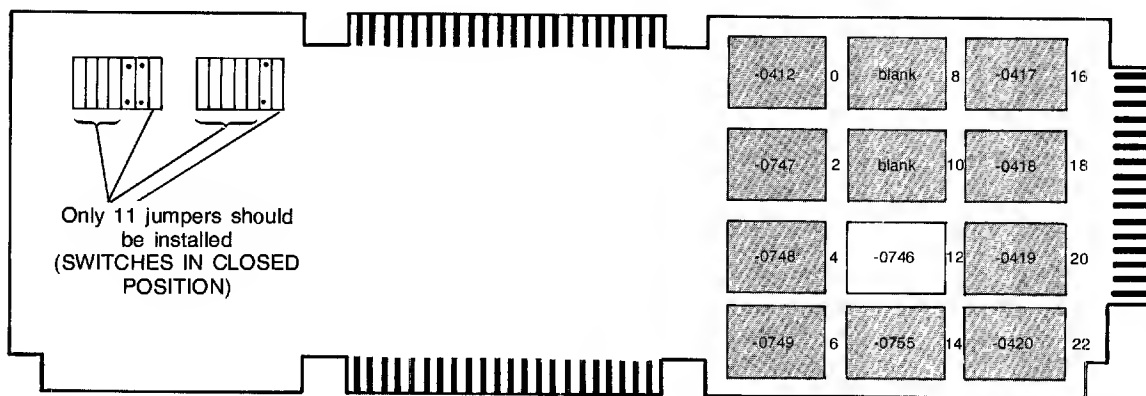

Figure 7-15. 13261A-003 Device Support Firmware ROM IC Locations on Control Memory PCA's
3. () If your interface accessory includes option -048, install ROM IC (part no. 1818-0746) in the appropriate Control Memory PCA. Follow the HP 13261A-003 Device Support Firmware installation procedures on page 7-15. Figure 7-15 shows the proper location for the ROM IC.)
8. () Carefully insert the appropriate ROM contained in accessory package into the *empty* ROM sockets 10 through 16 on the Control Memory PCA (see figure 7-15). Be sure that ROM pin 1 is at upper right corner of each socket. Be sure that all jumpers are installed (see figure 7-15).
9. () Carefully insert the appropriate ROM contained in accessory package into empty ROM socket 14 on the other Control Memory PCA (see figure 7-15). Be sure that ROM pin 1 is at upper right corner of each socket. Be sure that the appropriate jumpers are installed (see figure 7-15).